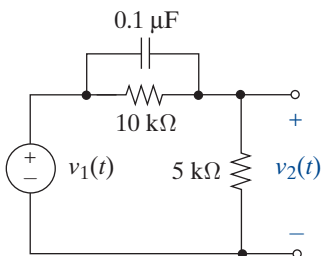

FIGURE P11-19
- 11-19 Find $v_2(t)$ in Figure P11-19 when $v_1(t) = \delta(t)$. Repeat for $v_1(t) = u(t)$.